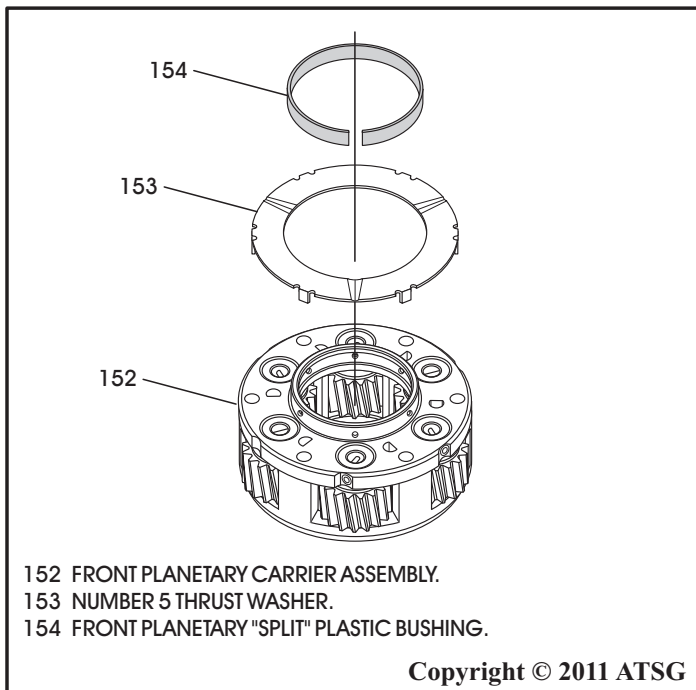

Figure 135
4. Install the number 5 thrust washer onto the front planetary carrier, as shown in Figure 135, retain with a small amount of Trans-Jel®.
5. Install the "split" plastic bushing over the hub on front planetary carrier, as shown in Figure 135, and retain with small amount of Trans-Jel®.